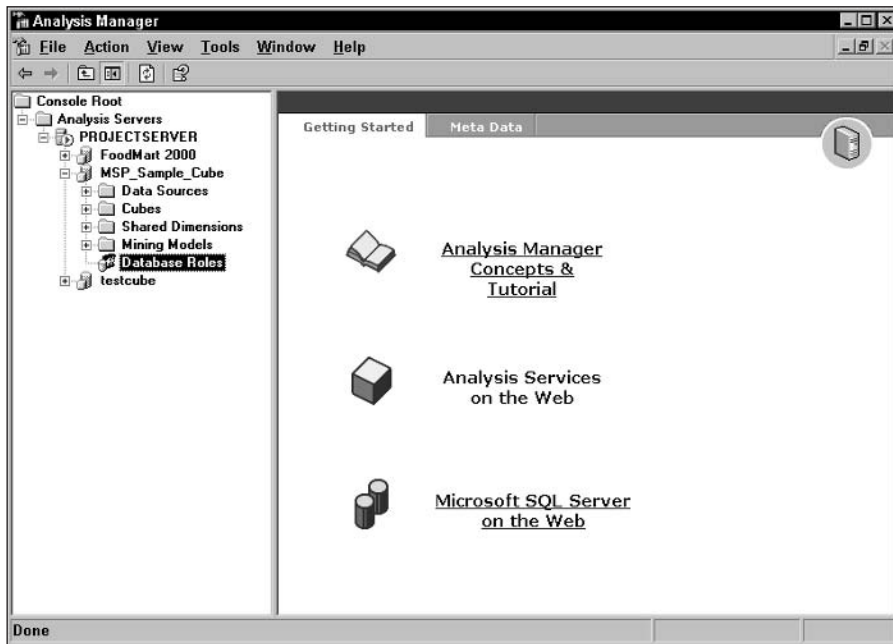

Figure 19-57: Find the OLAP cube to which you want to assign permissions.
2. Expand the tree in the left pane until you open the OLAP cube to which you want to give permissions (see Figure 19-57).